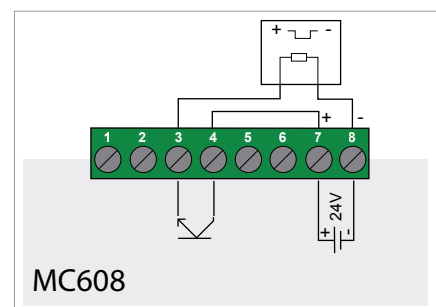

Fig. 30
1) Using 4 buttons positioned on the front display of the converter (see 1, Fig. 30), unscrewing the front panel glass (see 2, Fig. 35).